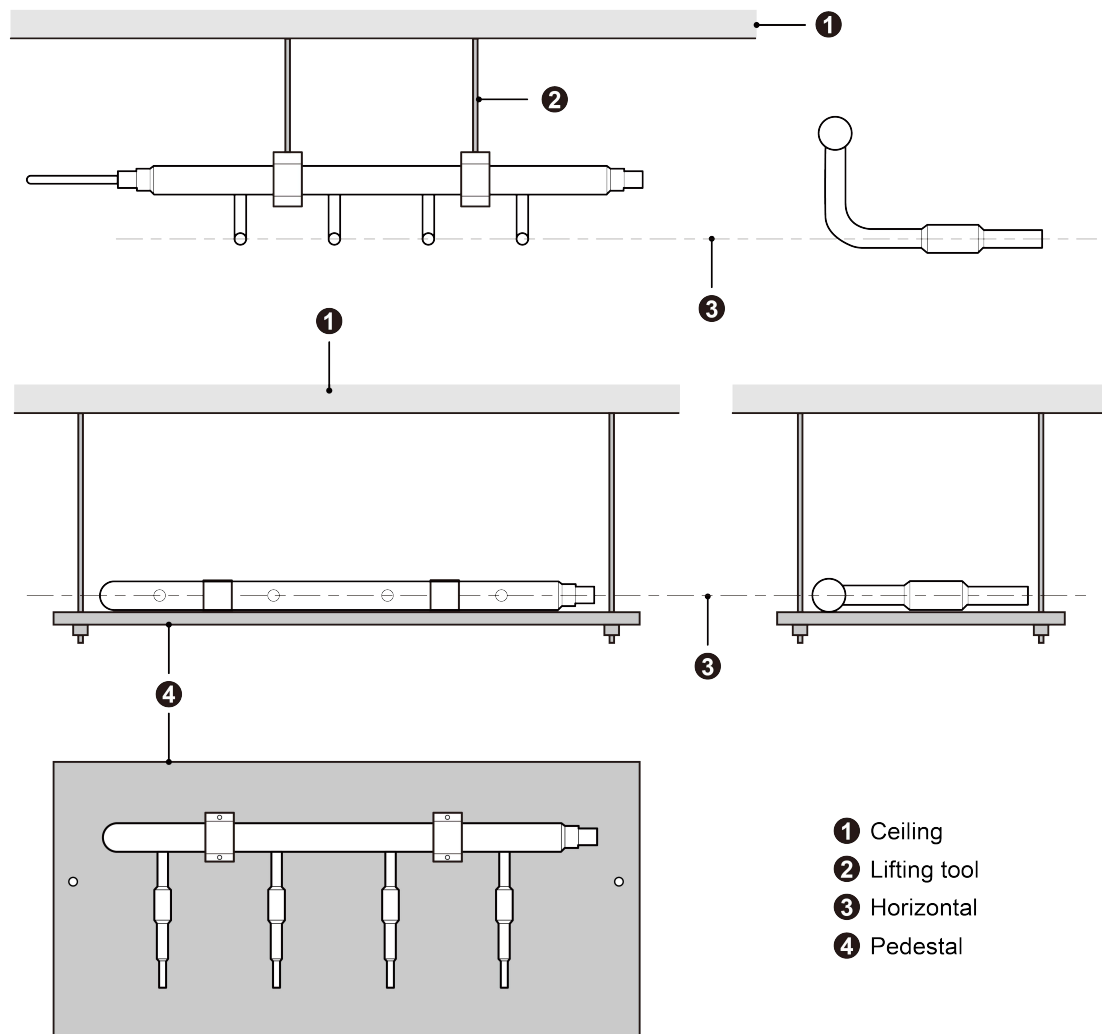

Fig.39
- (4) Suspend the header to the ceiling, and be sure to install the T-type manifold so that the outlet pipes are horizontal at the lower side. See Fig.39.